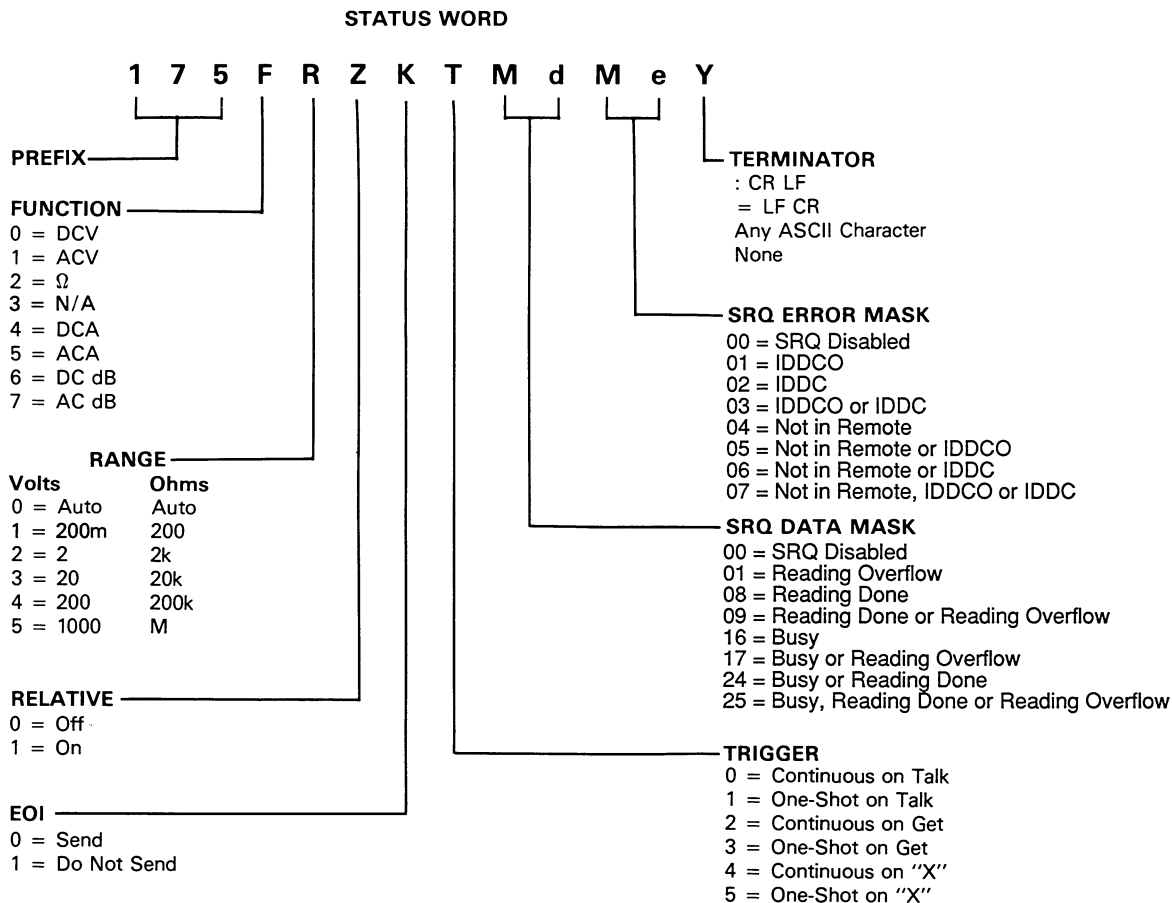

Figure 3-7. General Format for U0 Command
Figure 3-7 shows the general format for the U0 command. The letters in the U0 format correspond to other device-dependent commands, such as Range (R), dB (D), etc.
After entering the program, press the HP-85 run key. The U0 status word will then be displayed. The Me bytes (see Figure 3-7) will contain "01" indicating that the Model 175 is now programmed to SRQ on an IDDCO.